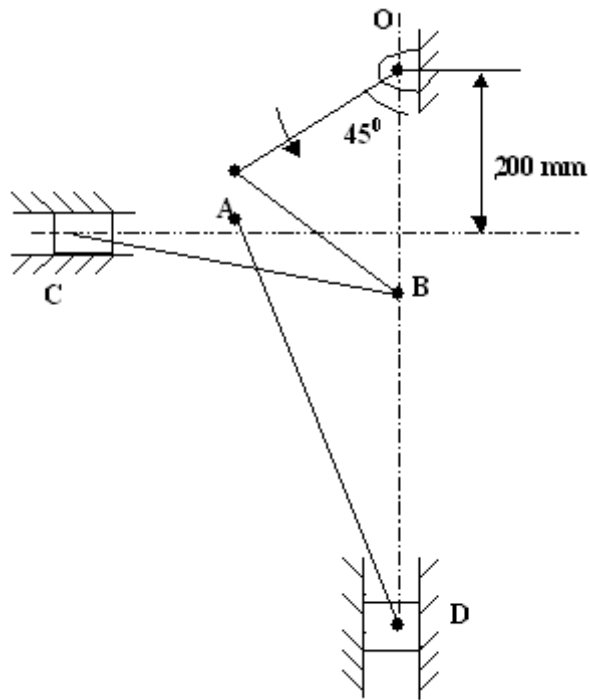

Figure 1:
3. The dimensions of the various links of a pneumatic riveter, as shown in Figure 1, are as follows: